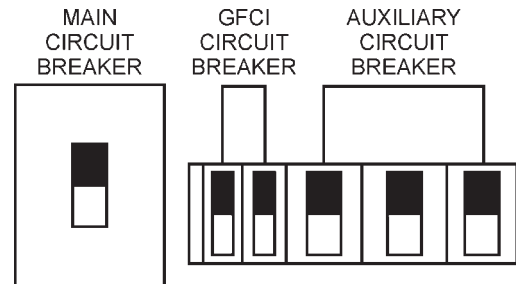

Figure 52. Main, Aux. and GFCI Circuit Breakers (ON)
12. Place the **main**, **GFCI**, and **aux.** circuit breakers in the **ON** position (Figure 52).